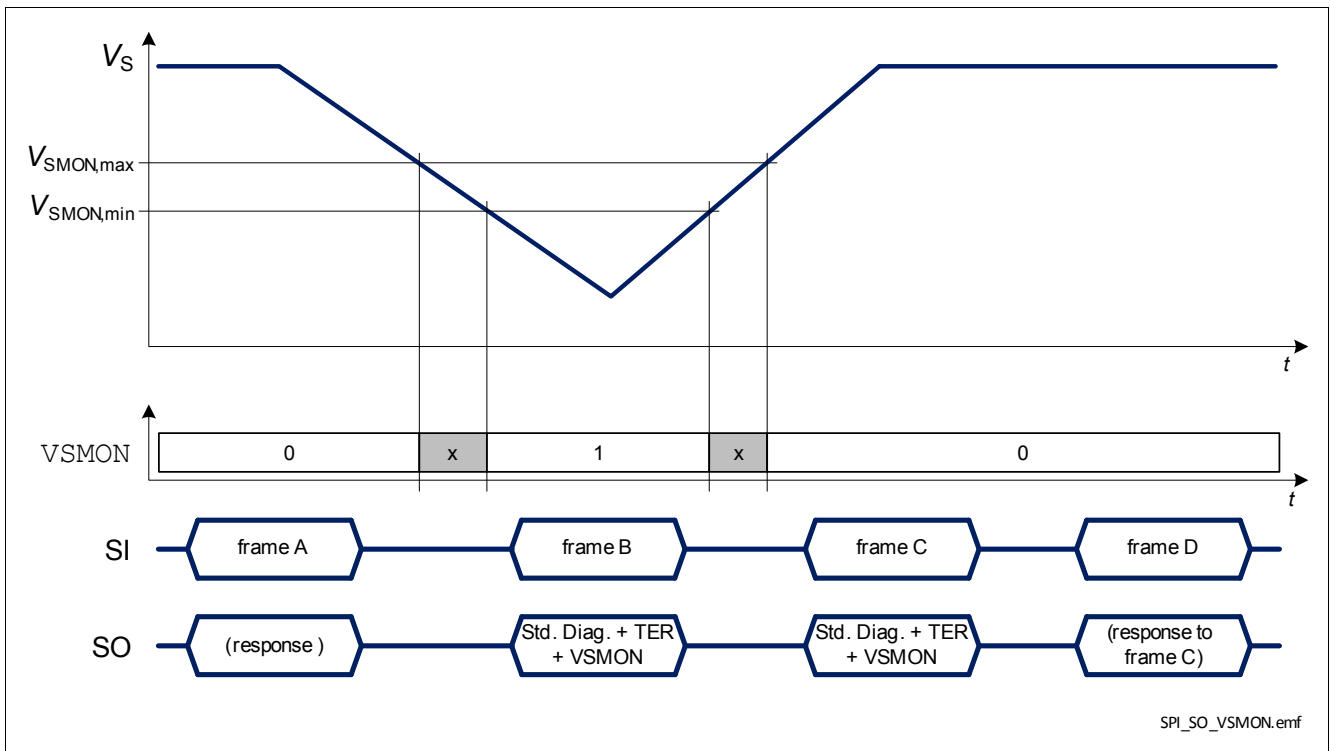

Figure 34 BTS54040-LBA response in case of a negative battery voltage transient
- when  $V_S < V_{SMON}$  and  $\text{DCR.MUX} \neq 111_B$ , as shown in Figure 34